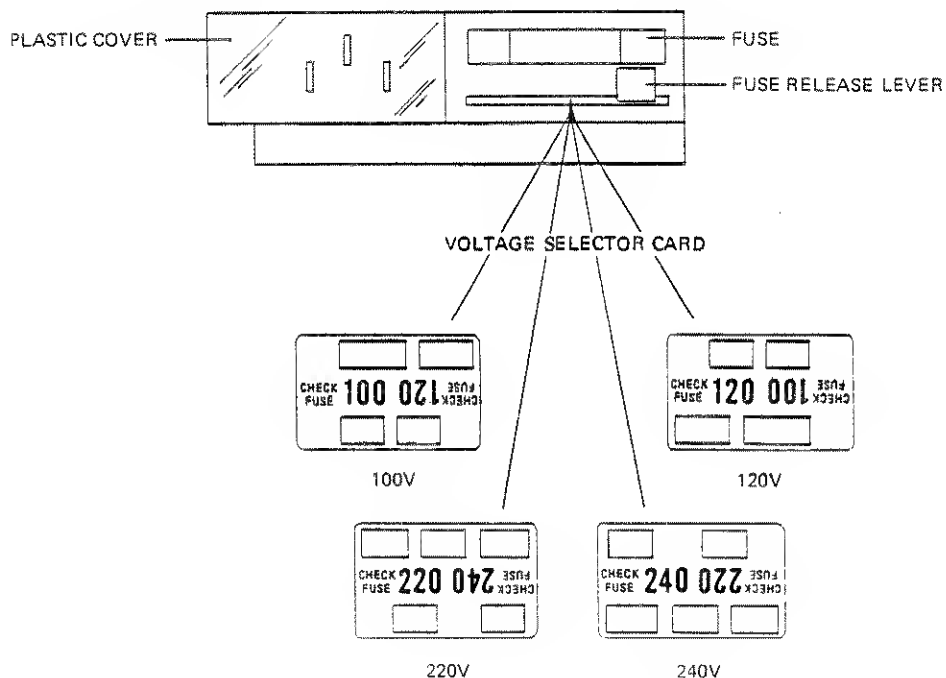

Figure 2.1 - AC Line Voltage Selection
2.4.2.1 The line voltage setting is easily changed by repositioning the small voltage selector card in its slot. Refer to Figure 2.1 and use the following procedure: